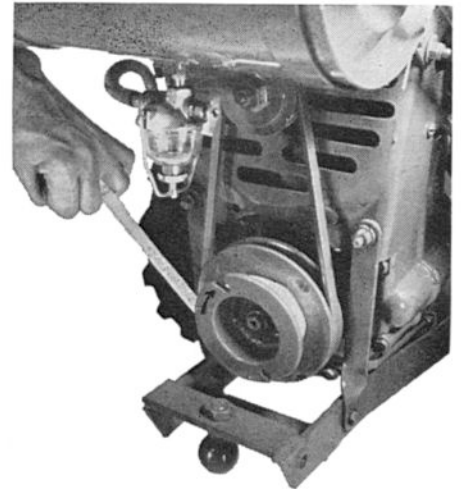

Figure 3
1. Turn the Pulley shown in Figure 3 counter-clockwise (opposite the direction of the arrow on the Pulley) as far as possible.